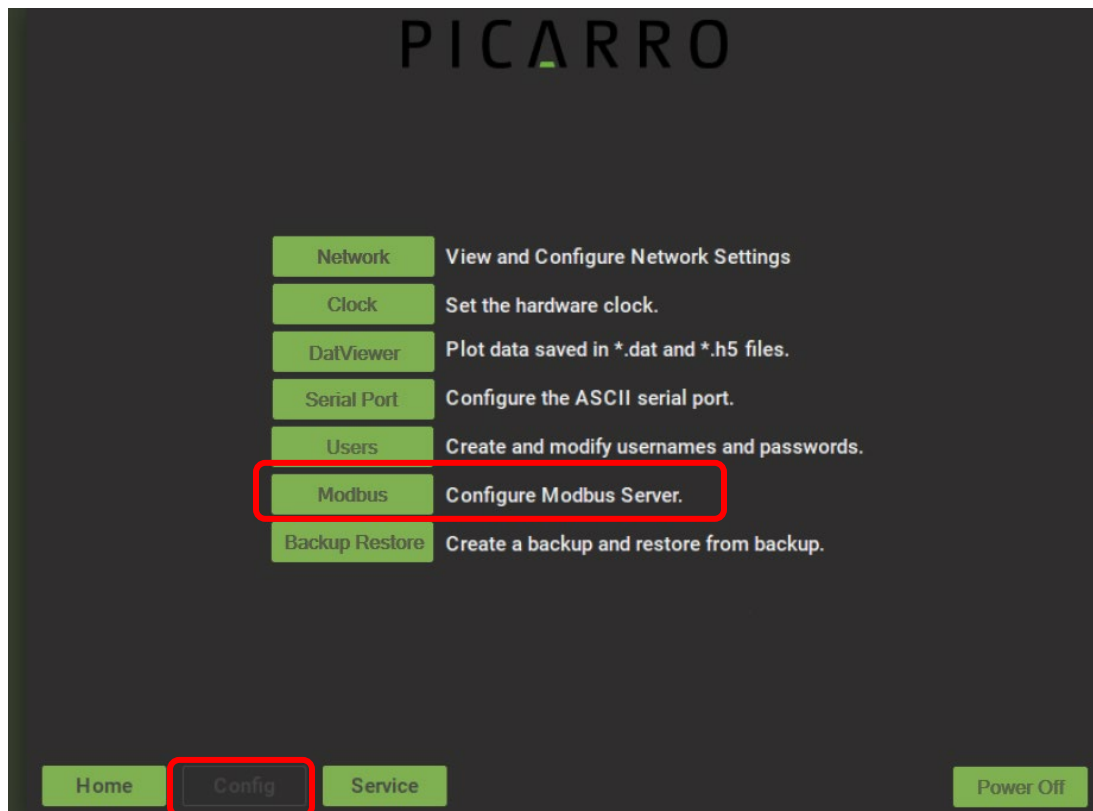

Figure 57: Settings/Modbus Configuration
1. From the Picarro Launch Pad, select **Config** followed by the **Modbus** button to configure the Modbus server as shown in Figure 57.